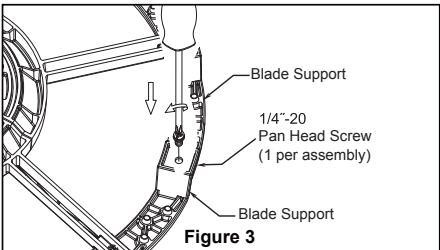

Figure 3
- 3. Position blade support under another blade support and aligning blade support holes with hole in another blade support. Make sure the blade support is fully seated against and install with 1/4"-20 screws. (Figure 3)